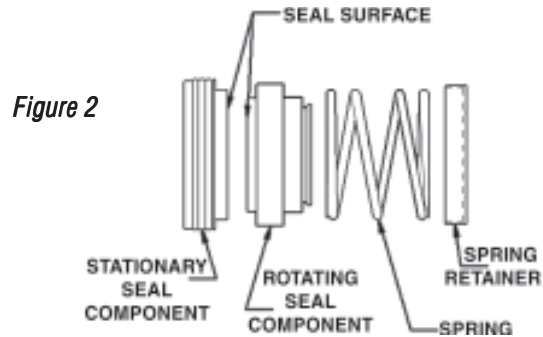

Figure 2
3. **For AC6 pumps** - To remove the v-clamp (item 2) and the impeller housing (item 1), first apply a thread lubricant to the threaded rod portion of the v-clamp, then remove the nut. Remove the v-clamp, the housing, and the o-ring (item 3).
**For AC8 pumps** - Remove the 8 housing bolts and all the hardware (items 15,16,17, 18). Remove the impeller housing (item 1) and the o-ring (item 3).
4. Place a screwdriver in the motor fan to prevent rotation and remove the self-sealing bolt (item 6).
5. Remove impeller (item 4), rotating seal component, seal spring and seal spring retainer. Discard seal components after removal. (See Figure 2).
6. Remove backhead assembly (item 7) and press out the stationary seal component. Discard stationary seal component after removal.
4. Lubricate the inside diameter of the rotating seal component with P-80 (or equivalent) or soapy water and press it over the impeller sleeve (item 4) with the rotating face pointed away from the impeller as shown in Figure 2 (towards the stationary face).
5. Insert key into the motor keyway. Visually determine key location in impeller sleeve. Align keyway slots on motor shaft and impeller sleeve. Slide impeller assembly over the motor shaft. Lubricate o-ring of new self-sealing bolt (item 6) with suitable, compatible lubricant. Insert self-sealing bolt into the eye of the impeller using a 9/16" deep well socket. Insert a screwdriver into the motor fan to prevent motor shaft from rotating. Tighten the bolt to 12-ft lbs.
6. Place impeller housing (item 1) over backhead (item 7) and o-ring (item 3) and make sure discharge is in the correct orientation (usually 12 o'clock).